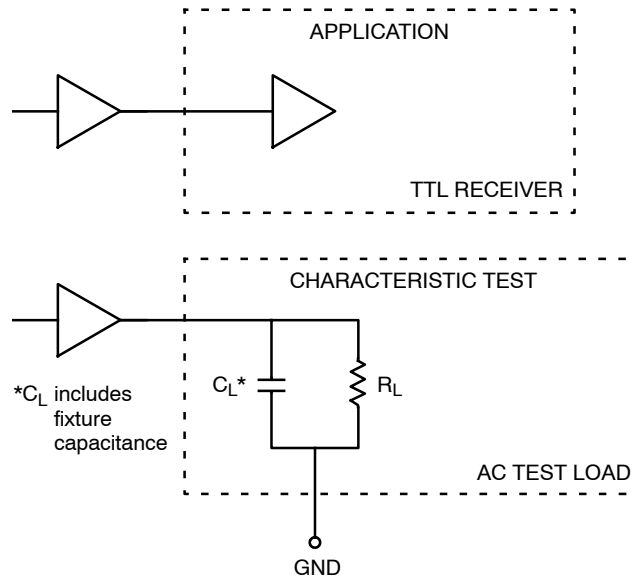

Figure 1. TTL Output Loading Used for Device Evaluation
5. Output Voltage = 1.0 V to 2.0 V.  $R_L = 500\ \Omega$  to GND and  $C_L = 25\text{ pF}$  to GND. Refer to Figure 1.